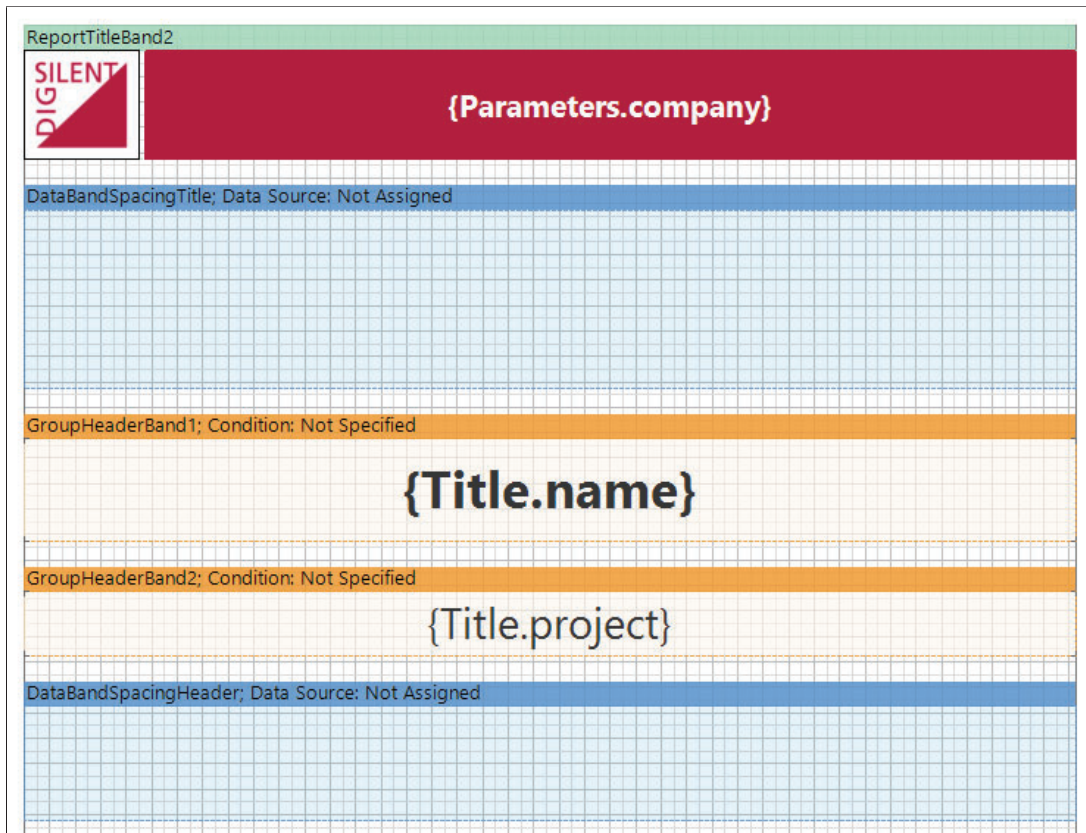

Figure 4.2: Report “Company Title Page” - Part 1
- Rename the data bands according to Figure 4.2. The name can be changed under *Properties* → *6. Design*.